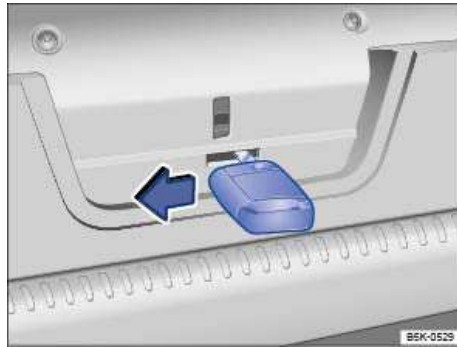

Fig. 168 Inside the luggage compartment: Opening the rear hatch.
- Insert the key into the slot on the rear hatch ⇒ fig. 168 and press the release lever in the direction of the arrow to unlock the rear hatch. At the same time, push the rear hatch out until it opens.